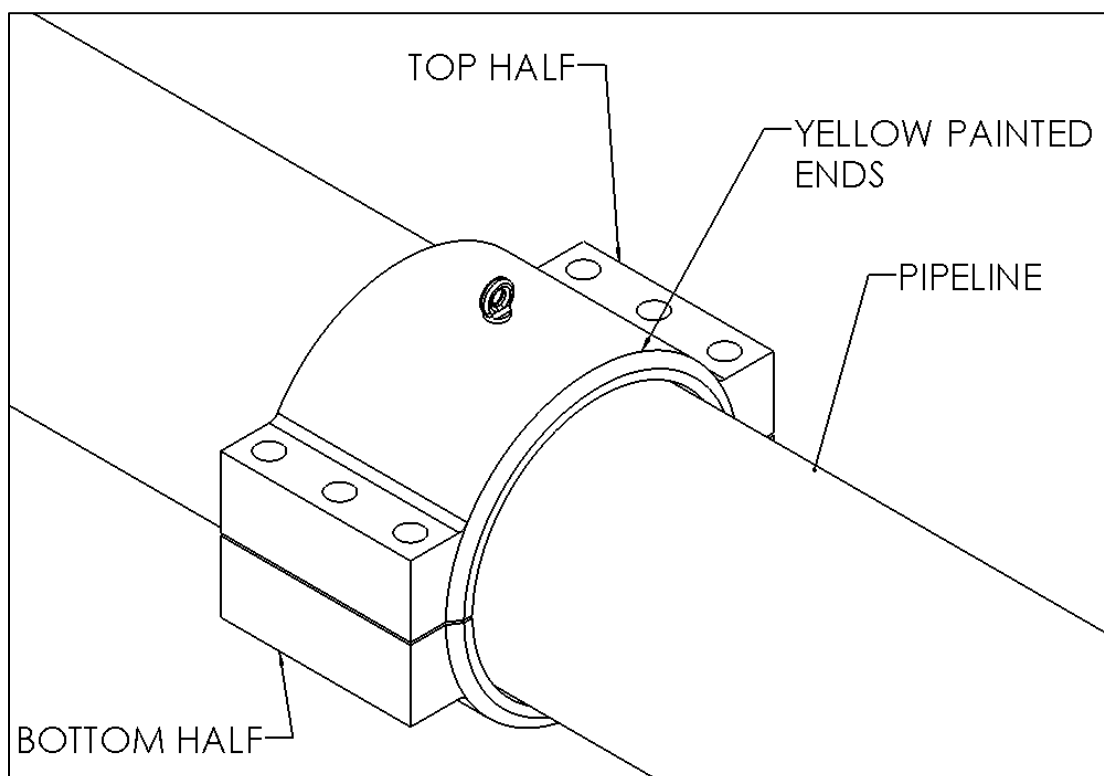

Figure 5
4. Assemble the PLIDCO Split+Sleeve around the pipe making sure the yellow painted ends are matched. The fitting should be centered over the leak and/or damaged area as much as possible as shown in Figure 5. At no point should the leak be closer than ½" (12.7mm) from the circumferential seals. Try to avoid having any leak spraying directly onto the longitudinal seals.